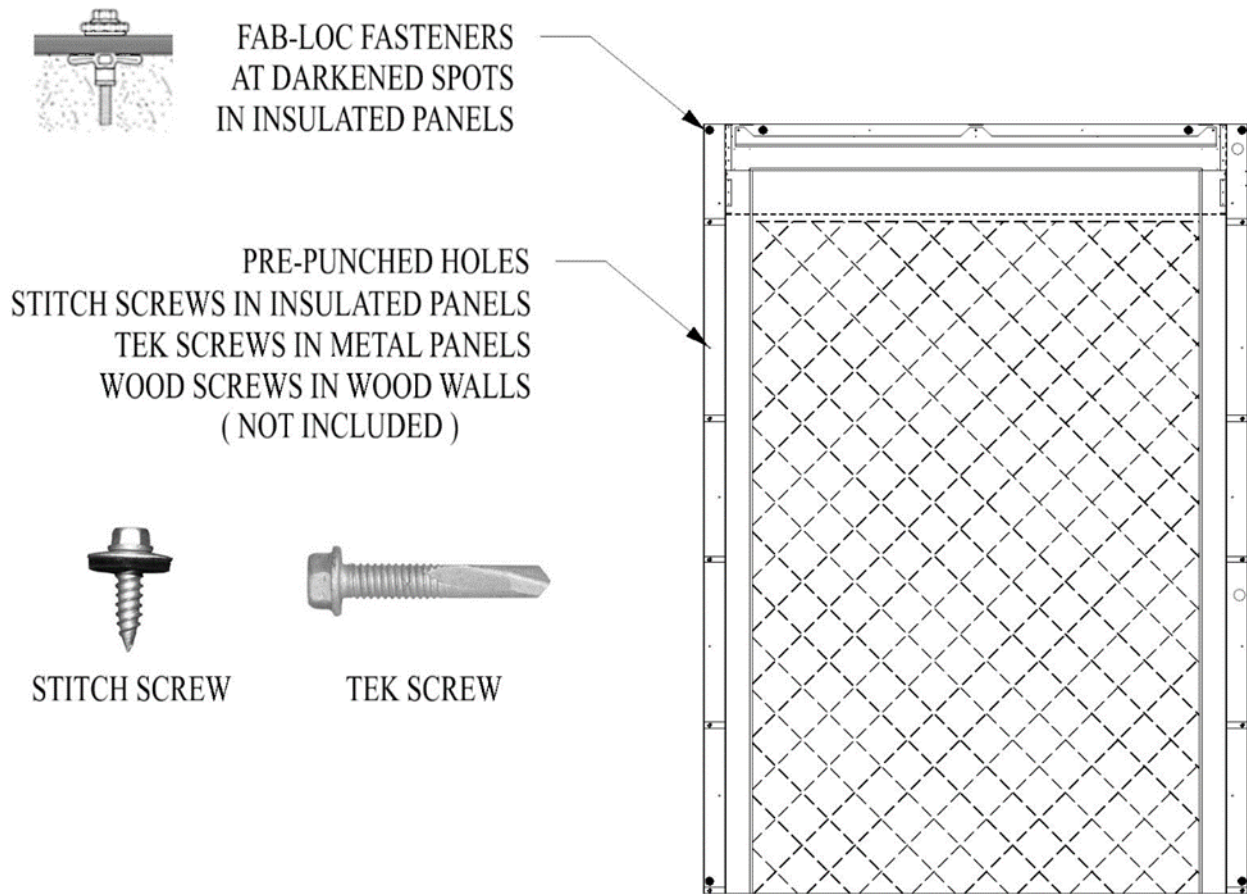

Figure 9: RS500 WIC Fastener Locations
4. When the door is raised in front of clear opening as shown in Figure 9, ensure that all mounting holes are aligned and flush with the attachment surface.
6. Once step 4 and step 5 have been performed, the door can be secured in position with the use of the provided hardware as shown in Figure 9.